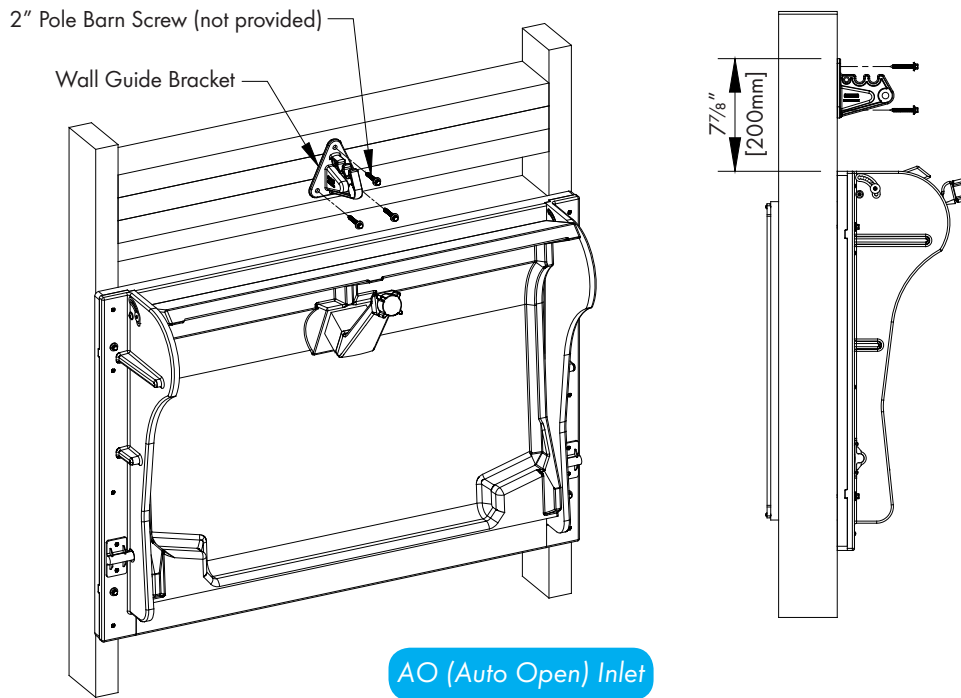

Figure 12A
For the AO (Auto Open) Inlet, install the Wall Guide Bracket  $7\frac{7}{8}$ " [200mm] above the top of the inlet using (3) 2" Pole Barn Screws (not provided). See Figures 12A. For the AC (Auto Close) Inlet install the Wall Guide Bracket 4" [100mm] below the bottom of the inlet using (3) 2" Pole Barn Screws (not provided). See Figures 12B.